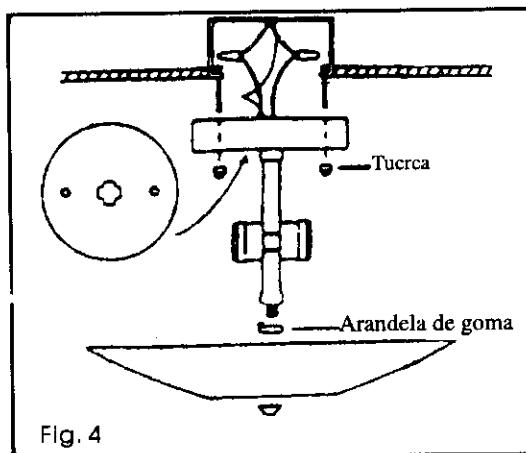

Fig. 4
4. If applicable, attach shades to fixture. Some shades require the use of shade attachment screws. Do not overtighten these screws—too much pressure could cause glass breaking. See Fig. 4 for placement of fabric spacer, not supplied on all models.